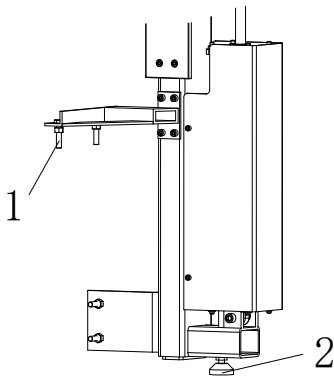

Fig 10
- 2) **Fix the column on the body with four screw 1 and adjust the support 2 to a suitable location;** (Fig 10)